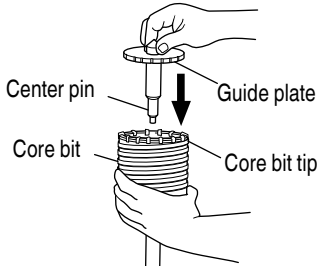

Fig. 22
- (3) Insert the center pin into the guide plate until it stops.
- (4) Engage the guide plate with the core bit, and turn the guide plate to left or right so that it does not fall even if it faces downward. (Fig. 22)